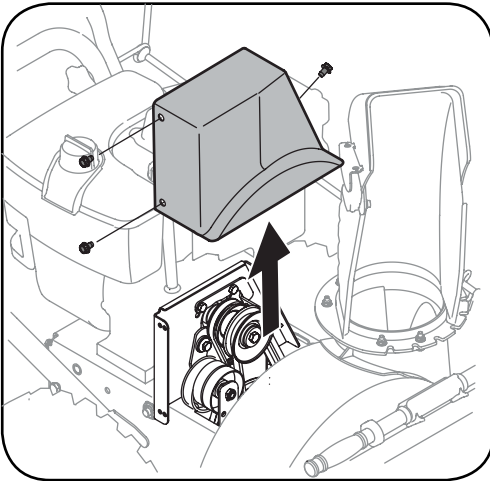

Figure 7-2
2. Remove the plastic belt cover on the front of the engine by removing the three self-tapping screws. See Fig. 7-2.